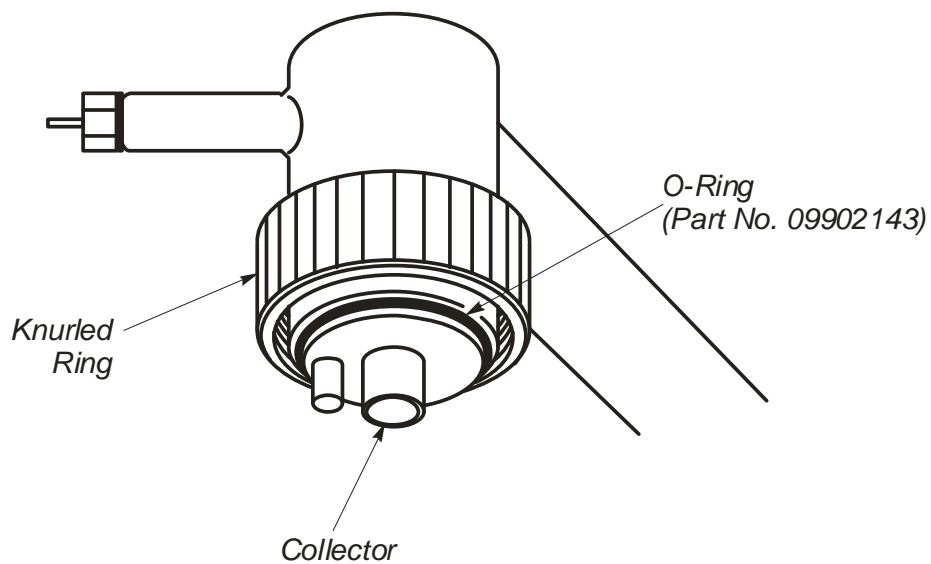

Figure 60. View of the FID collector and O-ring.
12. Remove the NPD collector assembly (see Figure 60) by loosening its knurled ring and lifting the collector assembly upward.
15. Remove the bead assembly from the transformer assembly by unplugging it from the connector (see Figure 60).
17. Carefully insert the bead portion of the bead assembly in the detector body as shown in Figure 60.